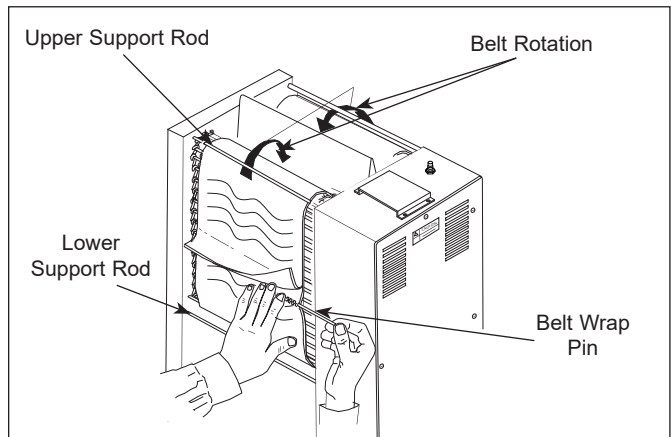

Figure 7. Installing Belt Wrap
6. Install the new Belt Wrap(s) around the Conveyor Belt Chains inside the upper and lower Support Rods with the zipper flap exposed and hanging down (Figures 7 & 8).